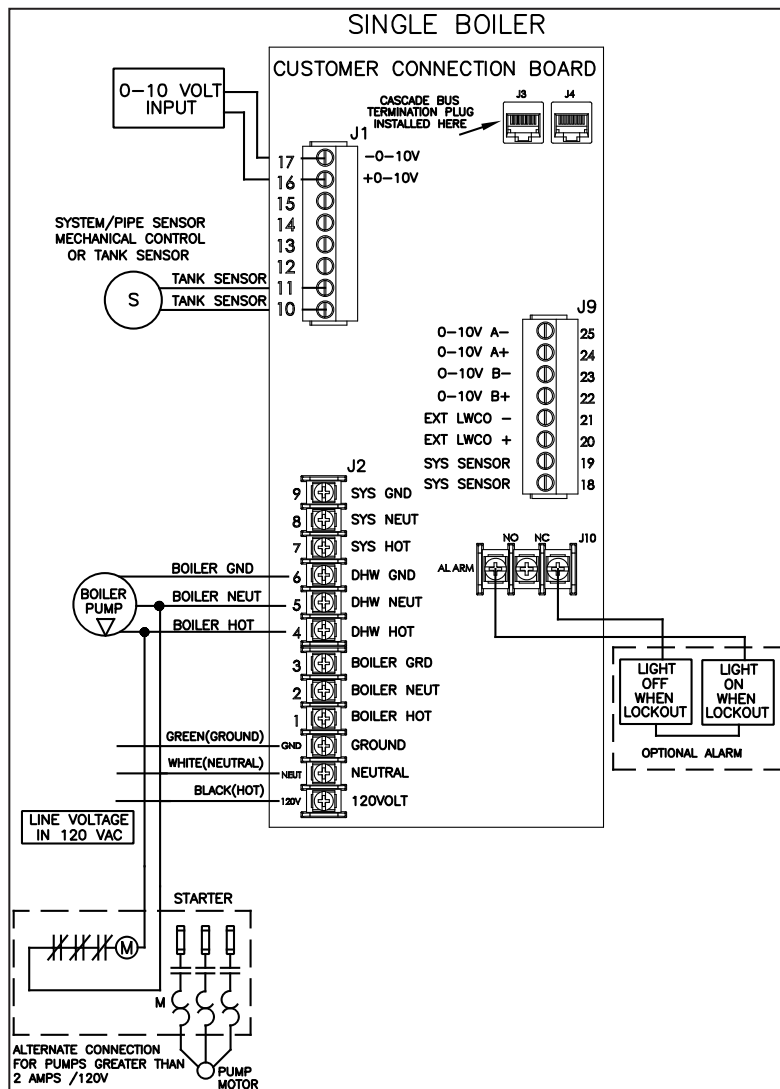

Figure 22 - VWH Control Wiring
NOTE: A termination plug is included in the CAT 3 / CAT 5 Bus Connection Point, labeled J3 in Figure 22. DO NOT REMOVE THIS PLUG! Doing so will affect boiler operation and void warranty.
1. Connect 120V / 60Hz / 15 AMP incoming power wiring to the line voltage terminal strip in the electrical junction box at terminals 120V, Neutral, Ground (shown in Figure 22).
3. Connect the boiler pump as shown in Figure 22 to the terminals marked 1 – (HOT), 2 – (NEUT), and 3 – (GND). The connections shown are suitable for a maximum continuous pump draw of 2 amps at 120 volts. If the pump requires more current or voltage than the 120 volts supplied, an external motor starter or contactor will be required.
operation and the circuit between ALARM COM and NO is open during normal operation. The connections depicted in Figure 22 show two 120 volt lights connected to the alarm terminals. One light will be on when the boiler is in normal mode and the other light will be on when the boiler is in lockout mode.
Connect the tank sensor or mechanical controls to the TANK SENSOR terminals (10, 11) of the low voltage terminal strip as shown in Figure 22. The control will automatically determine which type of sensor is connected and operate accordingly.
The system/pipe sensor can be used to control the temperature of the storage tank when a tank sensor or mechanical control cannot be mounted. The system/pipe sensor would be wired into the terminals of the low voltage terminal strip as shown on Figure 22. It is important to note that when a system/pipe sensor is used, the circulating pump must be wired to operate continuously; otherwise the boiler will short cycle.
2. Connect a building management system or other auxiliary control signal to the terminals marked 16, 0-10 VOLT + and 17, 0-10 VOLT - in the electrical junction box (shown in Figure 22). Caution should be used to ensure that the 0-10 VOLT + connection does not become connected to ground.
1. Connect the boiler pump as shown in Figure 22 to the terminals marked 1 – (HOT), 2 – (NEUT), and 3 – (GND). The connections shown are suitable for a maximum continuous pump draw of 2 amps at 120 volts. If the pump requires more current or voltage than the 120 volts supplied, an external motor starter or contactor will be required.